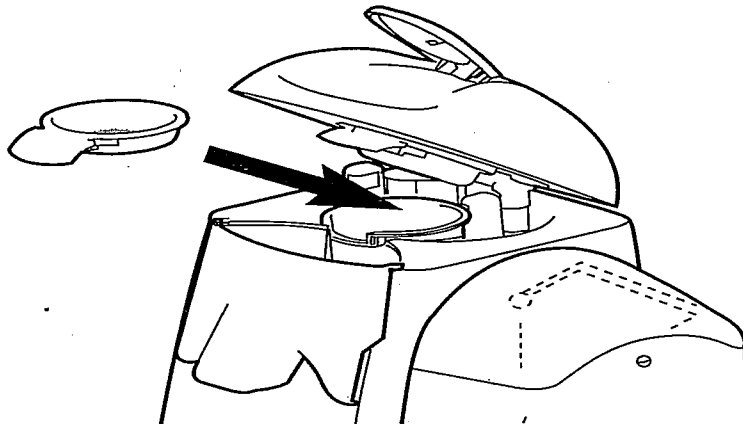

Figure 8
8. Then add the Pod Holder to the Pod Chamber to form the Pod Chamber Assembly. (Do not place a coffee pod in the Pod Holder.) See Figure 8.